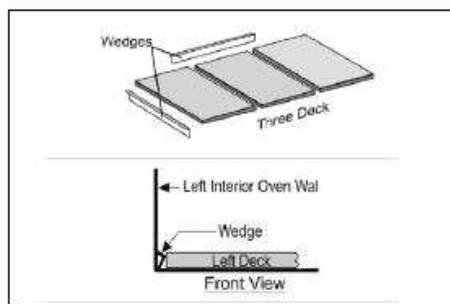

Figure 8
- (e) Use wedges in the back and on the sides of the deck if the decks are loose. The three decks should be tight against each other with no gap between them (See Fig. 8).